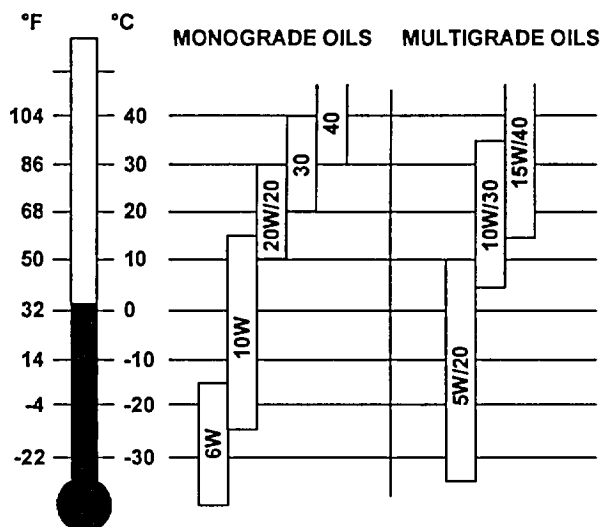
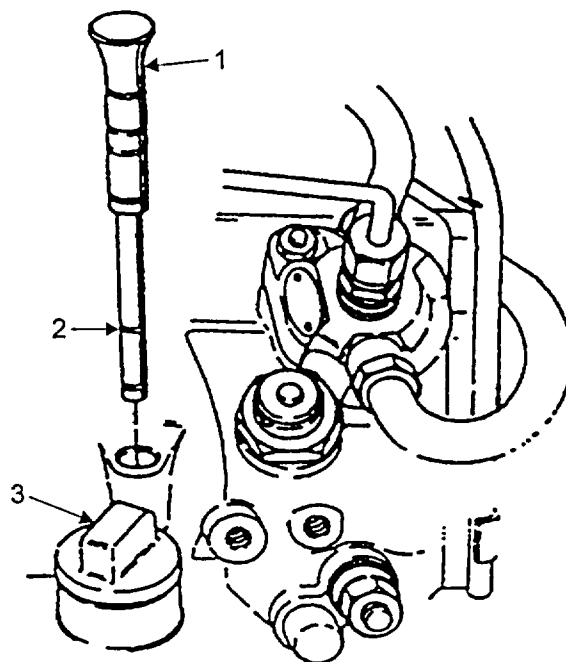

Figure 3-1. Recommended Viscosity's
FIGURE 3-2. ENGINE OIL FILL
The viscosity of oil is greatly influenced by ambient temperatures at the site of operation. Figure 3-1 shows the viscosity of oil recommended for use in the model CAPITANO-PD. When ambient temperatures fall below the limit of the oil selected, the starting performance of the compressor unit will be affected, but no equipment damage will be caused. Since a too viscous oil can cause starting difficulties, the choice of viscosity grades during winter operation should be governed by the ambient temperature prevailing at the time of engine starting. Oil changes resulting from ambient temperature changes can be avoided by using multigrade oils. All viscosities are subject to oil change intervals recommended in Table 2-2.
- h. Remove the engine oil fill cap (3) Figure 3-2.
- a. With engine level, check oil level. Remove oil dipstick (Figure 3-2, Item 1) and wipe with a lint free cloth. Insert oil dipstick all the way into engine Withdraw dipstick. Engine oil should coat dipstick to top mark (2) (max.).
- b. If oil coating is below top mark, remove oil cap (3) and fill with oil of proper viscosity as required.
- c. Select an oil viscosity grade to suit ambient temperature using Figure 3-1.